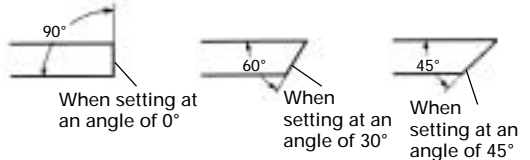

Fig. 4
**2. Cutting at angles (Fig. 4 and 5)**